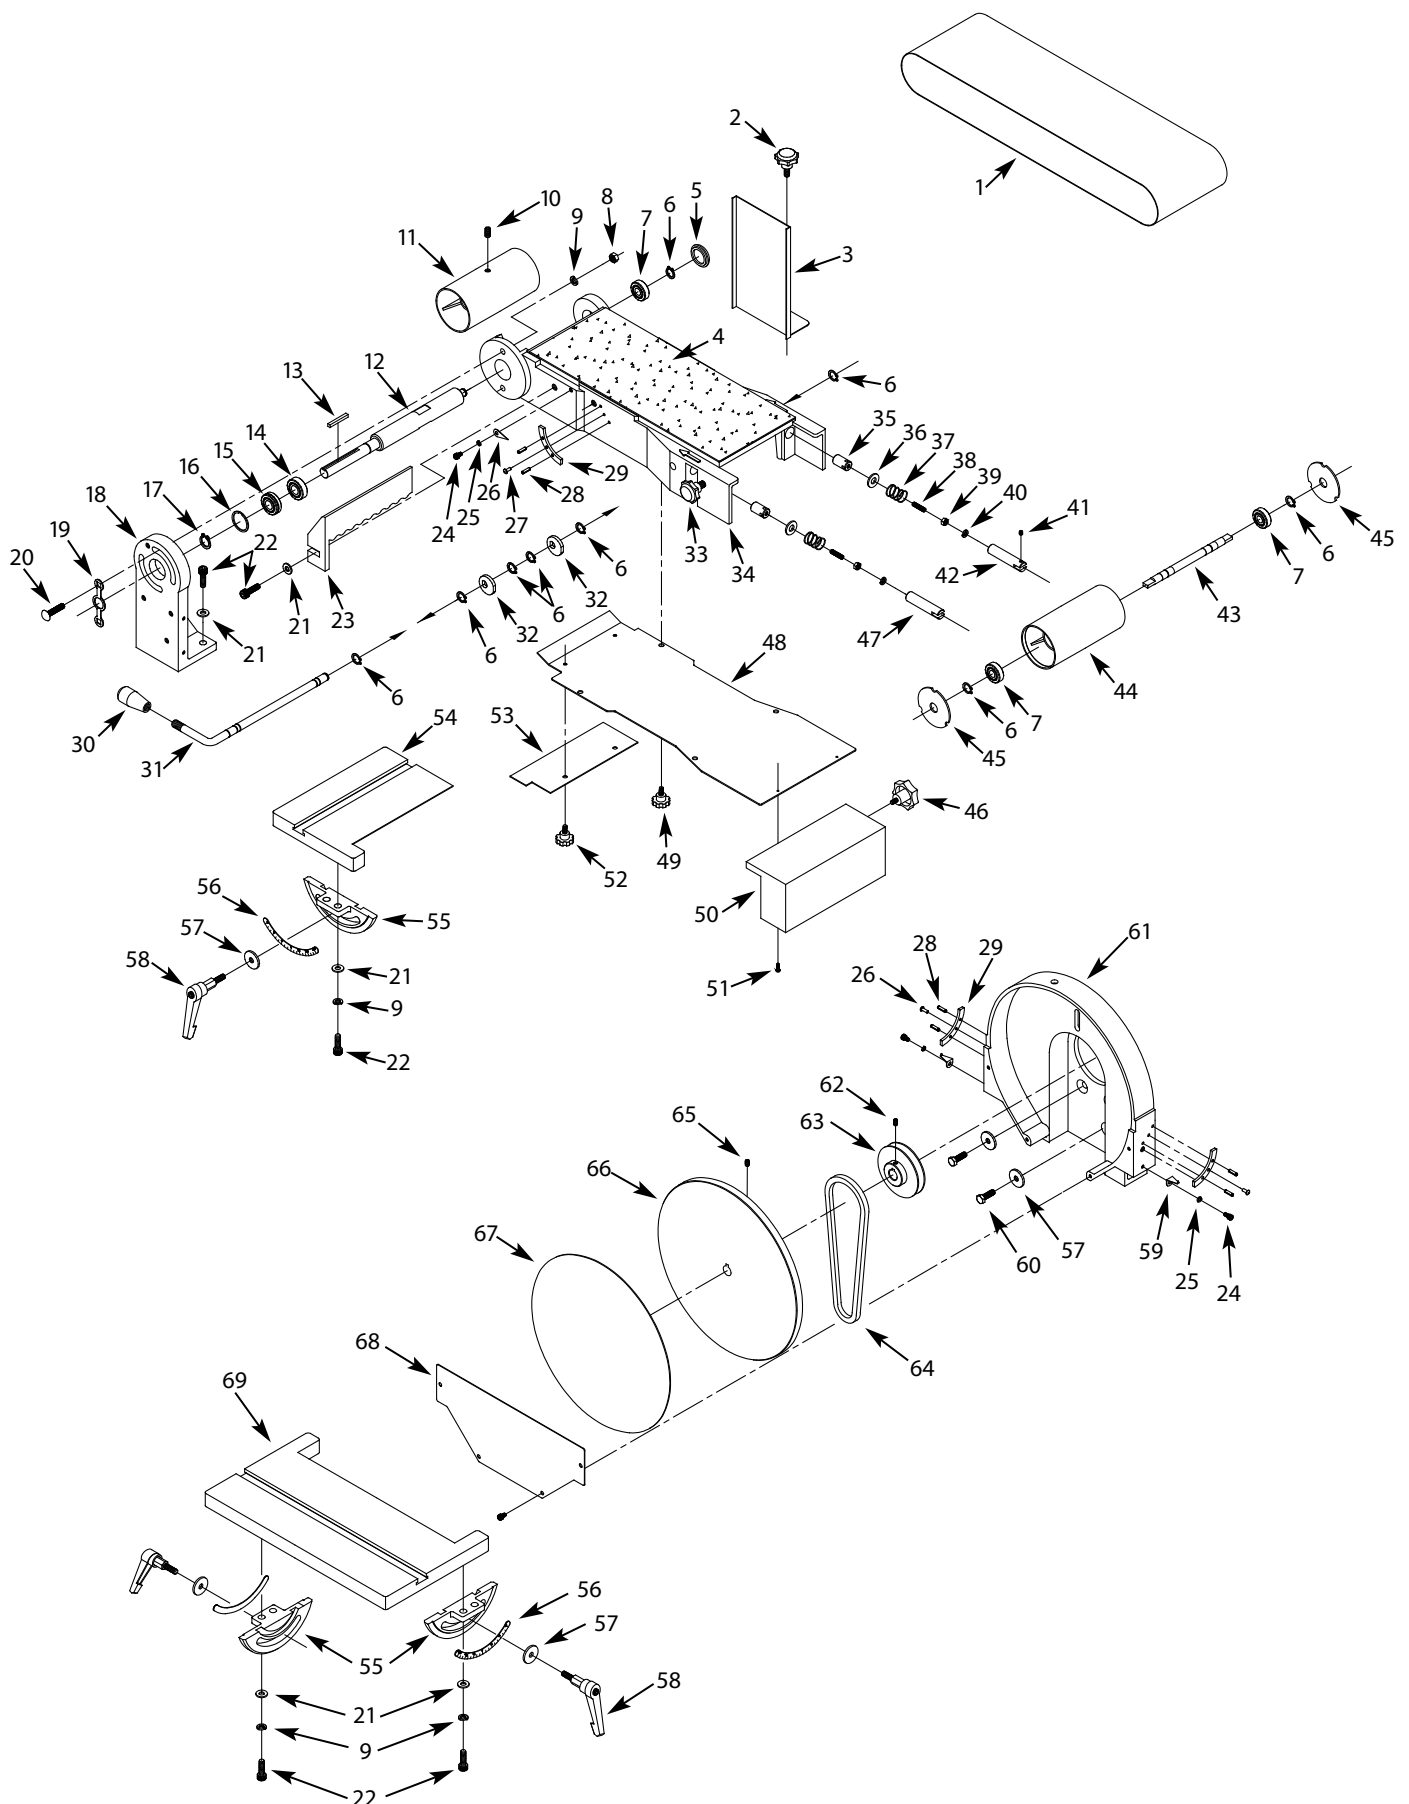
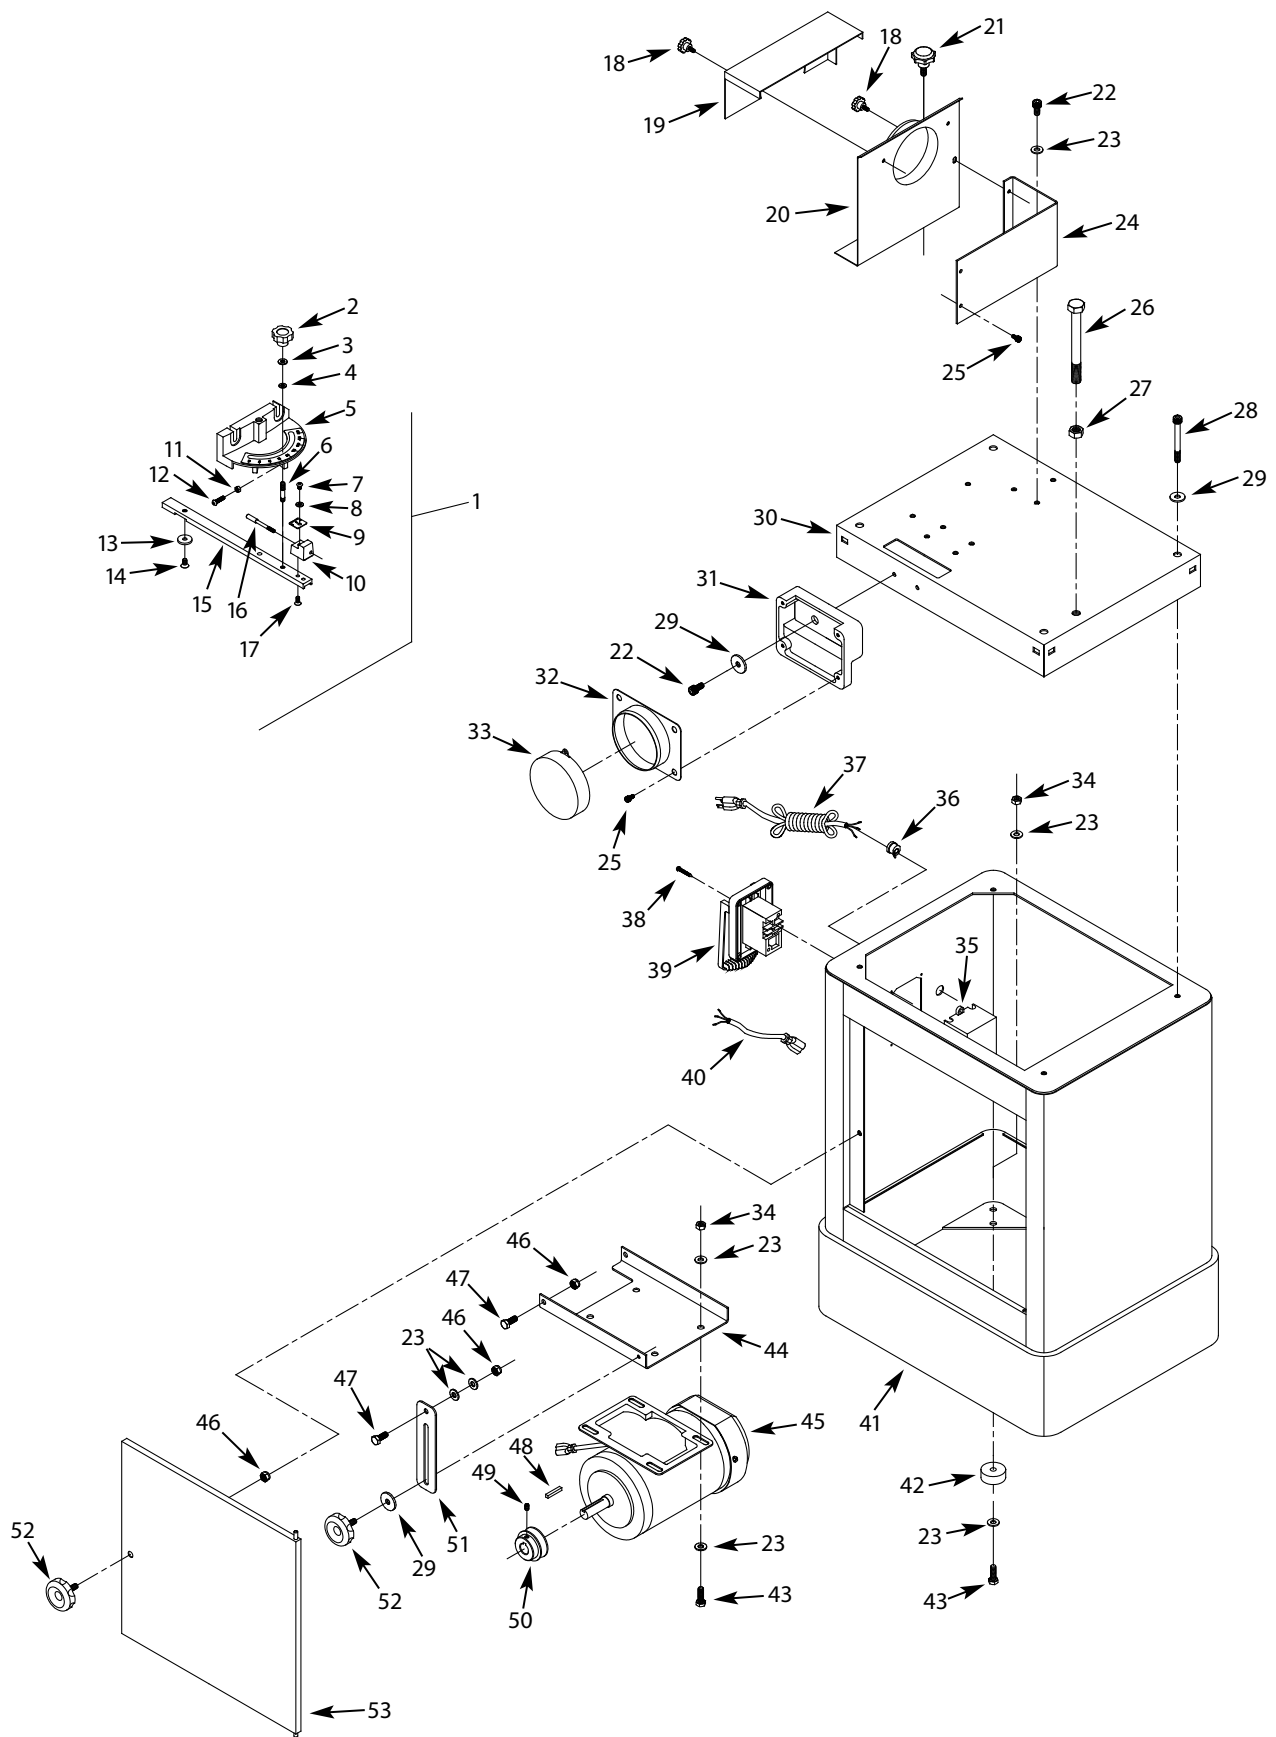

Figure 11 – Replacement Parts Illustration for Sander
Figure 12 – Replacement Parts Illustration for Cabinet
Refer to Figure 11.
Refer to Figures 11 and 12.
- Loosen and remove four bolts (Figure 11, Ref. No. 24) from disc cover plate (Figure 11, Ref. No. 68).
- Loosen two top bolts (Figure 12, Ref. No. 25) from dust collection port (Figure 12, Ref. No. 32).
- Loosen and remove two handles (Figure 11, Ref. No. 58) from either side of the disc table (Figure 11, Ref. No. 69).
- Slide out disc table from the disc guard (Figure 11, Ref. No. 61).
- Loosen the set screw (Figure 11, Ref. No. 65) securing the aluminum disc (Figure 11, Ref. No. 66). Use the hole on the top of disc guard to locate and loosen set screw. Do not remove set screw.
- Loosen and remove four bolts (Figure 12, Ref. No. 25) from dust collection port (Figure 12, Ref. No. 32).
- Open cabinet door (Figure 12, Ref. No. 53).
- Turn knob (Figure 12, Ref. No. 52) on bracket (Figure 12, Ref. No. 51) to release tension on V-belt (Figure 11, Ref. No. 64).